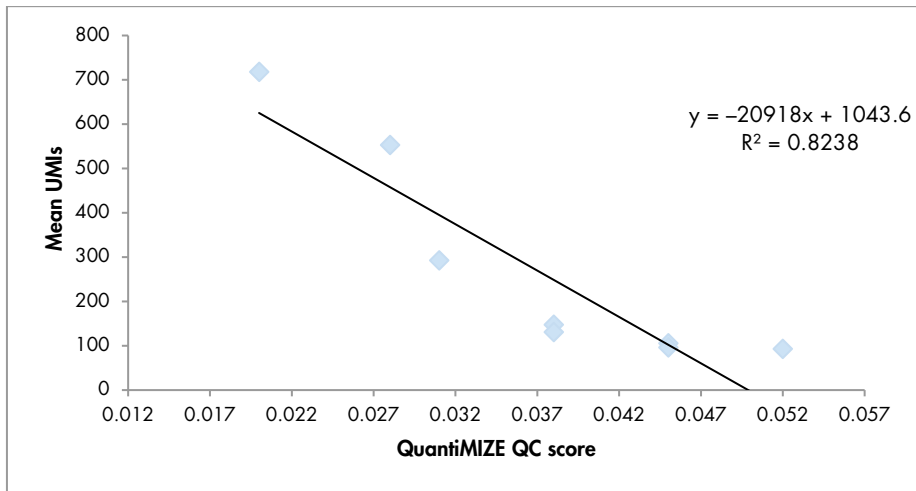

Figure 15. Correlation between QIAseq QuantiMIZE QC Score and the number of UMIs.
The QIAseq DNA QuantiMIZE System is recommended for determining FFPE DNA input for the QIAseq Targeted DNA Panels. If FFPE DNA is defined as high quality (quality control (QC) score ≤ 0.04) by QuantiMIZE, then up to 100 ng of DNA can be used. If the DNA is determined as low quality (QC score > 0.04), then up to 250 ng of DNA can be used. The QC score of QuantiMIZE reflects the amount of amplifiable DNA present in the sample, therefore correlating with the number of UMIs that can be sequenced in the library (Figure 15, next page).